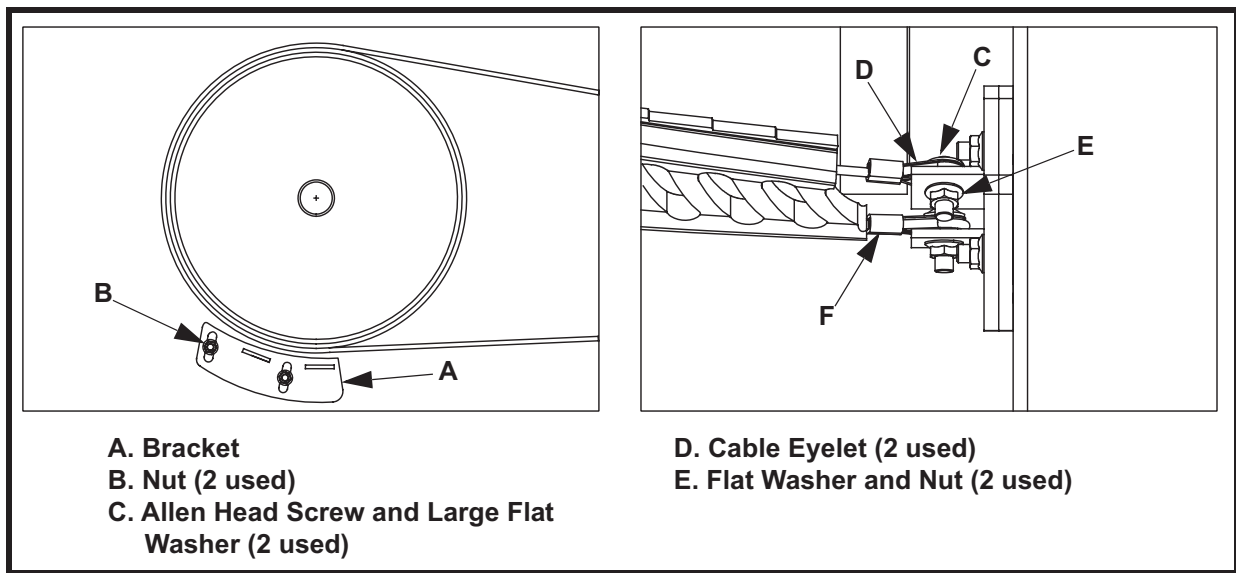

**Figure 5. Belt Cleaner Location & Chute Wall Cutouts**
- (1) Position fixed point bracket on far side chute wall as shown in Figure 5. Align bolt hole on bracket with head pulley center line.
- (2) Mark bracket hole locations.
- (3) Drill or cut two 12.7 mm (1/2-in.) holes for screws in far side chute wall.
- (4) Mount fixed point bracket to inside of far side chute wall using countersunk screws and nuts.
- (2) Weld bracket to chute wall. Weld completely around bracket. Do not skip weld.
- a. Mark chute wall cutouts as shown in Figure 5.
- a. Mark chute wall as shown in Figure 5.